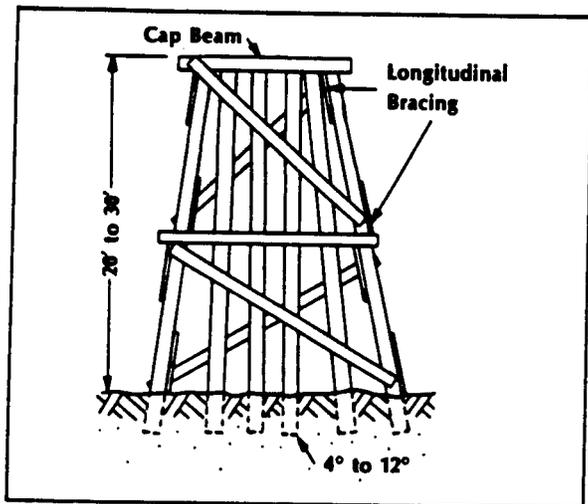

Figure 1-6 Batter piles
e. Batter piles. Piles driven at an angle are batter piles. They are used to resist heavy lateral or inclined loads or where the foundation material immediately beneath the structure offers little or no resistance to the lateral movement of vertical piles. Batters are driven into a compressible soil to spread vertical loads over a larger area, thereby reducing settlement. They may be used alone (battered in opposite directions) or in combination with vertical piles (figure 1-6). Batter piles can be driven at slopes of 4 degrees to 12 degrees with ordinary driving equipment.